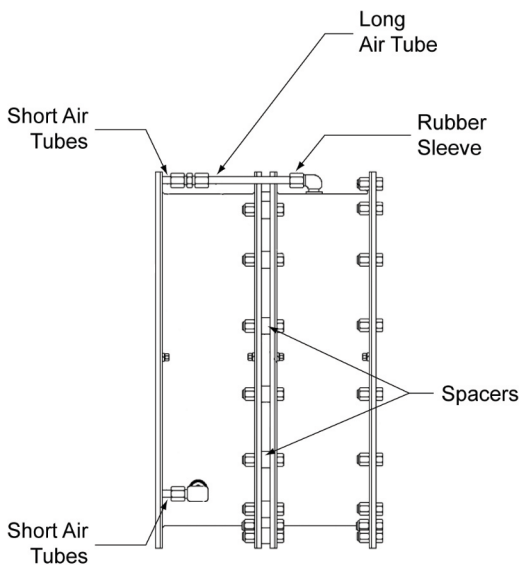

Figure 8
- 2.7.7 Align the air connections and reassemble the element halves, making sure the spacers are in place between the elements. See Figure 8 .
- 2.7.8 Reassemble the air connection tubes. If an elbow has been removed, use a good quality pipe sealant on the threads. See Figure 8 .